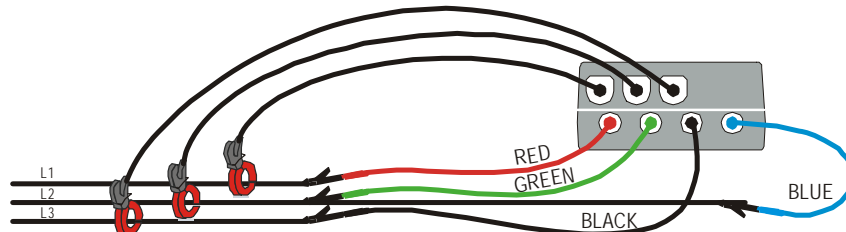

Fig. 3: Instrument connection in a 3-wire three-phase system
3. Connect the phase and neutral voltage wires following the connections shown in Fig. 3.